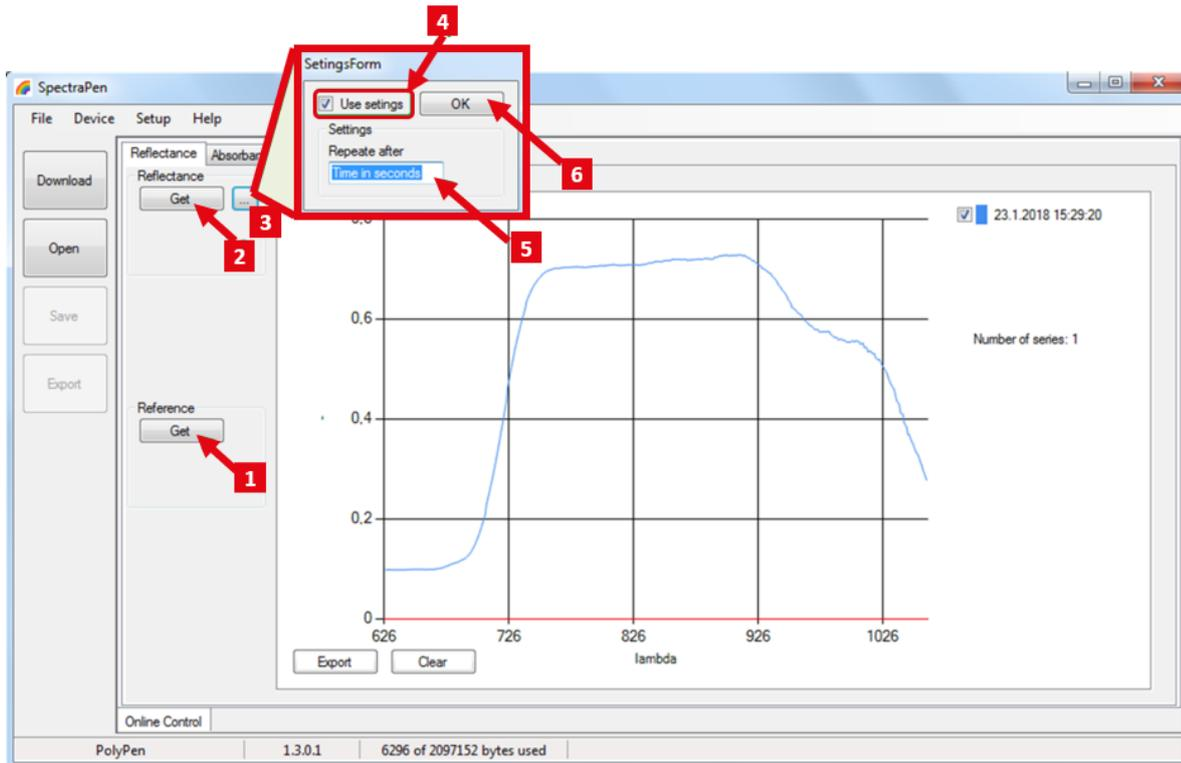

Fig. 36 Setting of reflectance or absorbance measurements in online control.
### Remote measurement (Fig. 36)
- For manual remote measurement click on Get button (Fig. 36 - 1).
- Setting for automated remote measurement is possible using the button with three dots (Fig. 36 - 3). Here the time interval (Fig. 36 - 5) of the measurement is set. To apply this setting use the option Use settings (Fig. 36- 4) and confirm by clicking OK (Fig. 36 - 6). The measurement starts immediately and continues until it is manually stopped (Stop button).